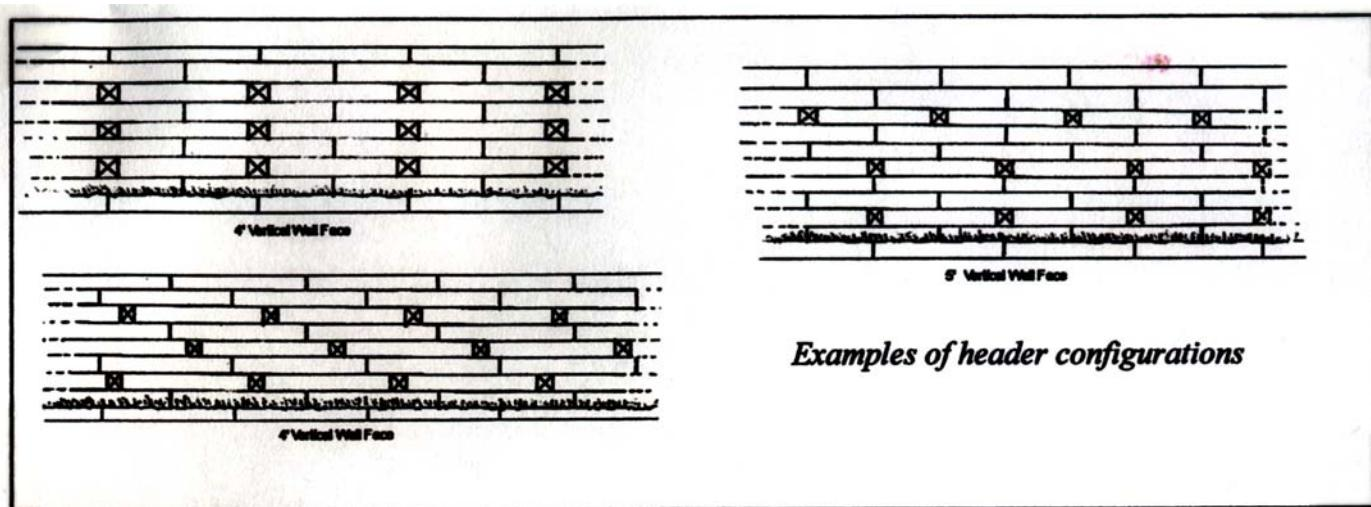

Figure 11. Examples of header placement and configuration. From: SULIS: [www.sustland.umn.edu](http://www.sustland.umn.edu)
3. Tiebacks, headers and deadmen are portions of timbers placed into the soil behind the wall to strengthen the wall. Excavate for headers and deadmen into the hill. The size, length and location of headers and deadmen will be design specific (Figure 11). Headers can extend 1½ to two inches past the wall face to add strength and to prevent splitting (Figure 12). In some cases this is also considered a decorative feature